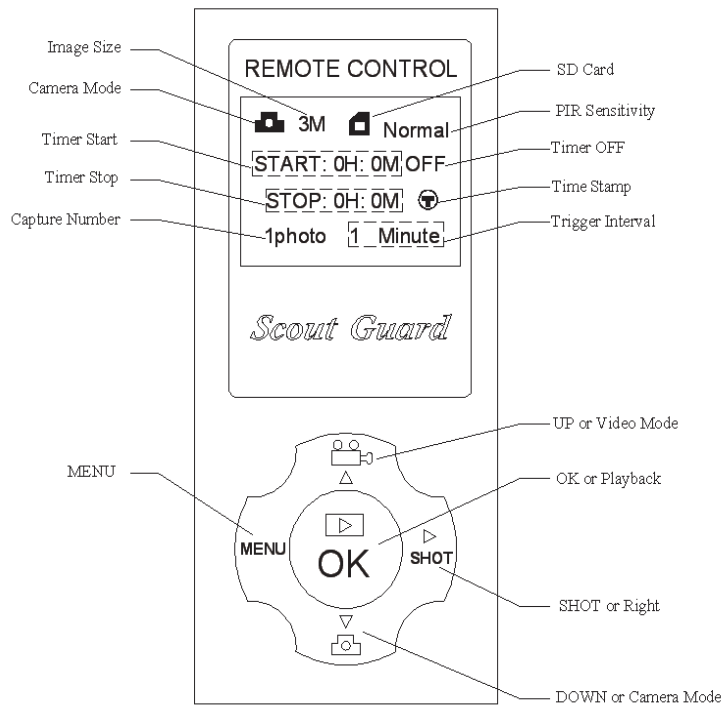

Figure 2: Buttons on the remote control and icons on the screen
- Fig. 2 shows the remote control
The remote control is an input device of the camera and is primarily used for setting. As shown in Fig. 2, there are five keys: UP, DOWN, RIGHT, MENU (in place of LEFT) and OK.